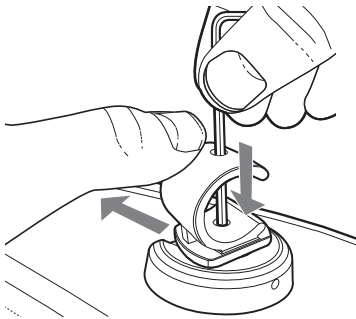

Fig. 31 Removing the accessory
1. Use the hexagon key to push down the spring of the universal accessory clip (Fig. 31). Remove the accessory.